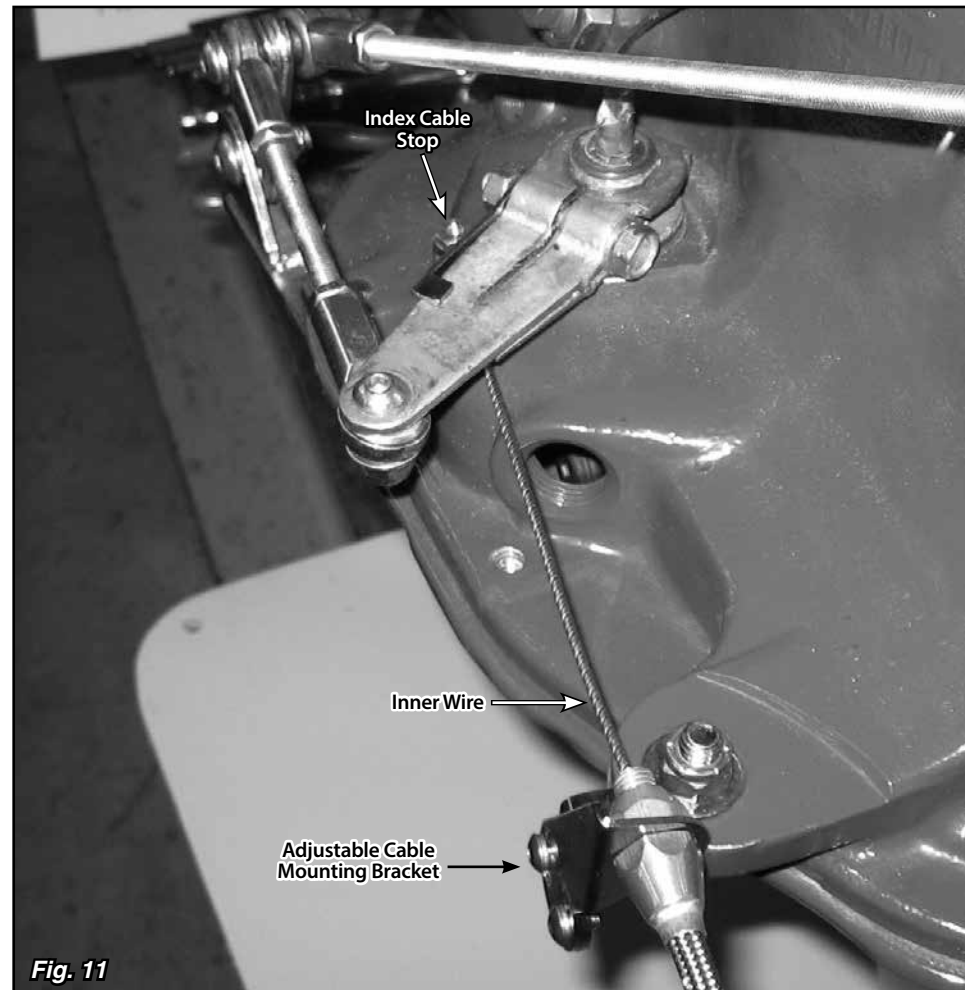

Fig. 11
Step 12: At the opposite end of the cable, install the index cable stop into the indicator stop tab, with the set screw at the top and the hole for the inner wire below the indicator stop tab. Guide the inner wire underneath the trans arm and slide the inner wire through the hole in the index cable stop so that approximately 1" is protruding. You should now have excess inner wire at the opposite end of the cable (at the sensor). Tighten the set screw in the index cable stop on the indicator trans arm using a 1/16" Allen wrench. Adjust the angle of the adjustable cable mounting bracket so that the inner wire will not bind or kink as it goes through the gear selections. **Fig. 11**